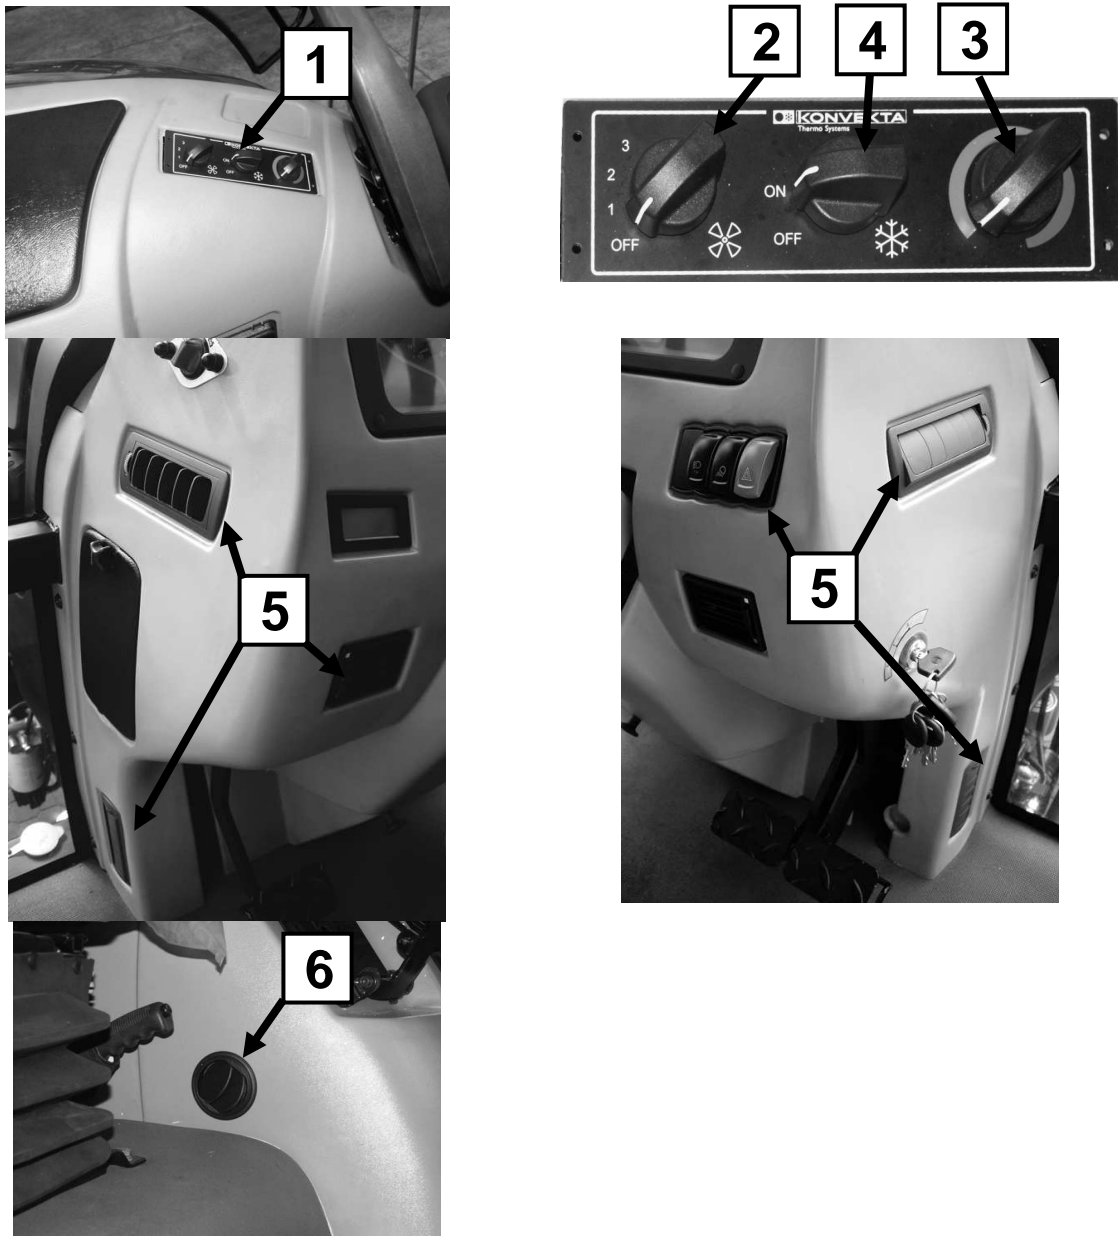

Figure 4-21 Ventilation, heating and cab air conditioning system.
Switching on blower by connecting fan with dial 2 (Figure 4-21) placed on control panel 1 on the left side of cab.
Heater dial 3 (Figure 4-21) enables smooth temperature regulation of hot air from heater. Turning heater dial to the right or left side lowers or increases temperature of air coming from heater to air outlet.
Switching on blower by connecting fan with dial **2** (Figure 4-21) placed on control panel **1** on the left side of cab.
Thermostat dial **3** (Figure 4-21) enables smooth regulation of temperature of cooling air. Turning thermostat dial to the right or left reduces or increases temperature of air leaving evaporator. To switch on air conditioner press button **4** (Figure 4-21).
- fan dial **2** (Figure 4-21) selects required degree of blower operation,
- button **4** (Figure 4-21) activates air conditioning
- thermostat dial **3** (Figure 4-21) sets required temperature,